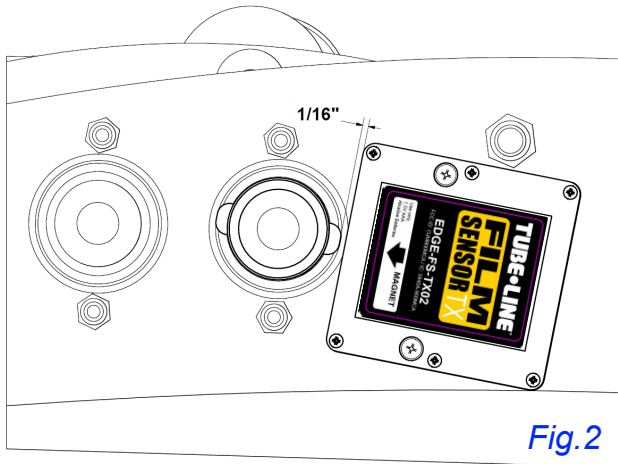

Fig.2
2. Push magnet bushing (C) over closest roller bearing collar (D), backing off slightly to avoid wearing on wrap carrier. Ensure the magnet bushing is installed with set screws towards inside edge for full contact with roller bearing collar when tightened.
3. Drill holes through plastic wrap carrier frame so that when transmitter is mounted, it is 1/16" from tip of rare earth magnet. See Fig.2.
4. Install transmitters on each plastic wrap carrier frame with provided machine screws and lock nuts (B). Transmitter end marked "MAGNET" positioned towards wrap carrier rollers. See decal image to left.